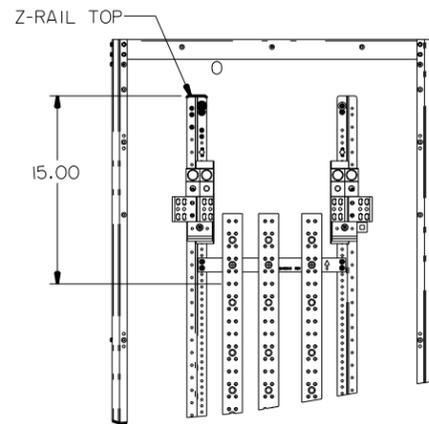

Figure 2
3. Reference fig. 2 - To locate mounting position of a JD, SJD, LD, SLD Frame main breaker, measure 15" from the top (or bottom for bottom feed applications) of Z-rail and mark position on Z-rail. The marked position acts as top (or bottom) of unit space for the strap assembly as shown in fig. 6 for deep mount (P5) or fig. 8 for shallow mount (P4).